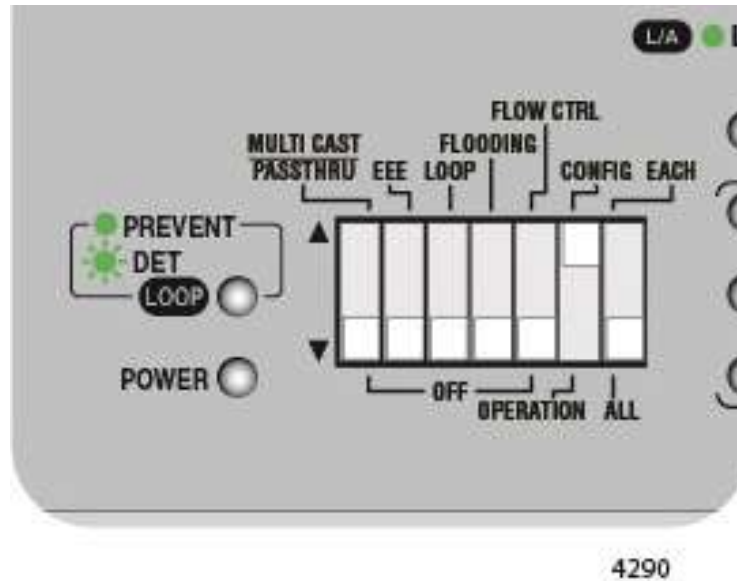

Figure 53. DIP Switch Settings for Configuring All Ports
2. Set DIP switch # 7 (ALL/EACH) to the DOWN (ALL) position as shown in Figure 53.
All of the port SPD/LOOP LEDs flash indicating that all of the ports are ready to be configured. See Figure 53 on page 85.